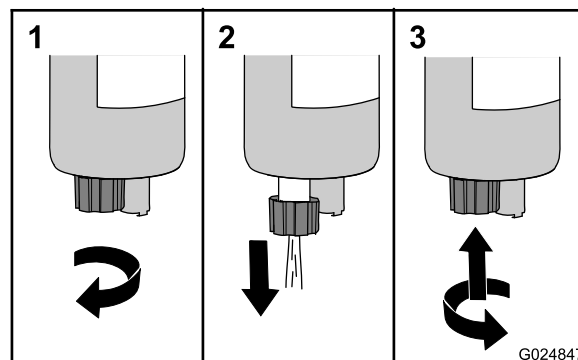

Figure 21
3. Rotate the drain valve counterclockwise approximately 3-1/2 turns until the valve drops down from the fuel-water separator (Figure 21).
4. Drain the water and sediment from the separator until clear fuel is visible (Figure 21).
5. Lift up the valve and turn it clockwise until it is hand tight (Figure 21).